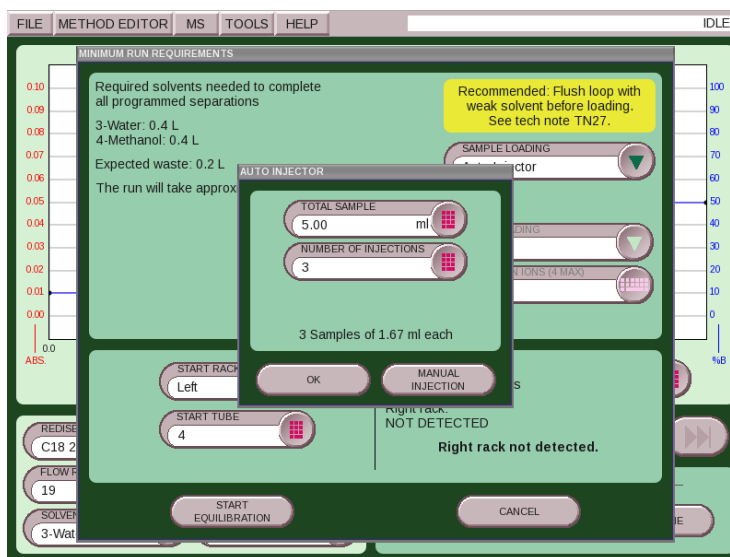

Figure 4-2 Selecting the sample volume and number of injections
4. In the dialogue box, enter the total sample volume and the number of injections (Figure 4-2).